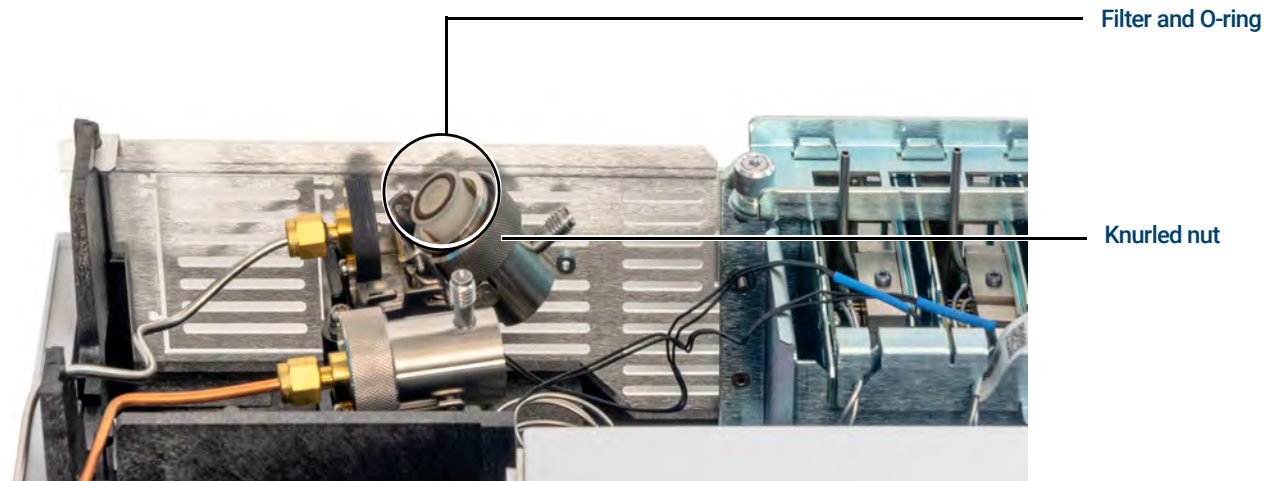

Figure 39. Slide trap assembly to expose the filter
- 5 Slide the trap assembly back from the guided mounting bracket and tilt up to expose the filter as shown in **Figure 39**.